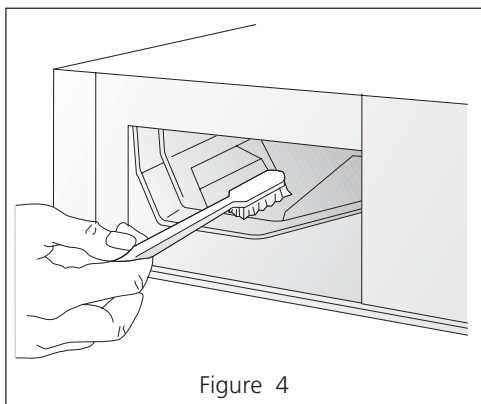

Figure 4
- To clean the drawer opening, use a small brush to clean the recess. Remove all residue from the upper and lower parts of the recess. (Figure 4)